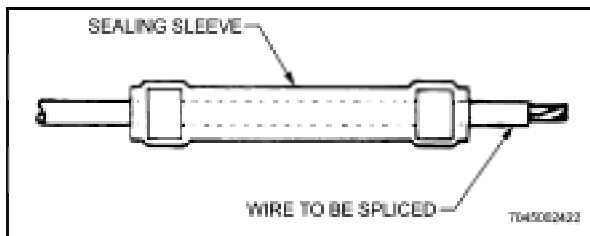

Figure 5-3 Sealing Sleeve placed on One Wire End
- k. Slide splice sealing sleeve over one end of stripped wire (Figure 5-3).